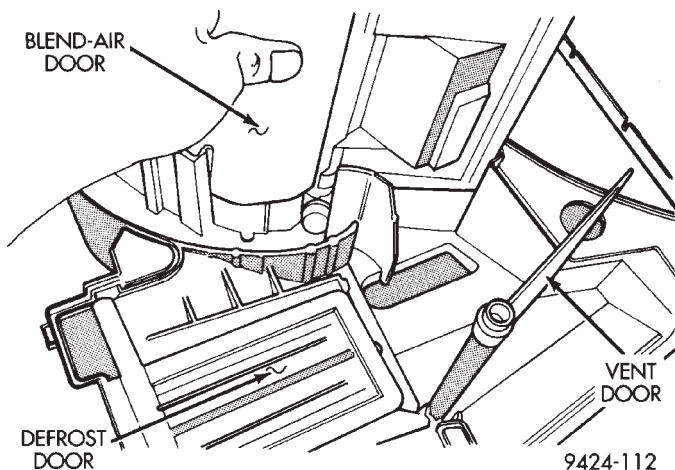

Fig. 87 Blend-Air Door
(7) Turn housing over and snap in the vent door to the vent door arm.
(8) Install blend-air door in the housing (Fig. 87).